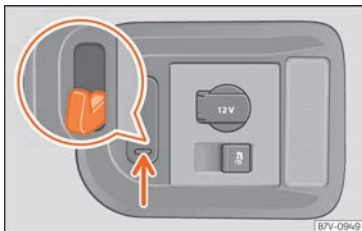

**Fig. 150** In the luggage compartment: bag hooks.
On the right hand side of the luggage compartment there are some fold-out hooks for hanging bags » **Fig. 150**.
- Press the retaining hooks down » **Fig. 150** (arrow) and fold them.